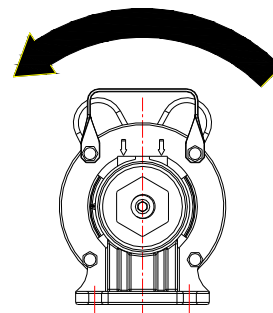

Figure 13
**CAUTION** *Proper rotation of pump impeller is critical on three phase motors. See Motor Rotation under Operation section and Figure 13.*